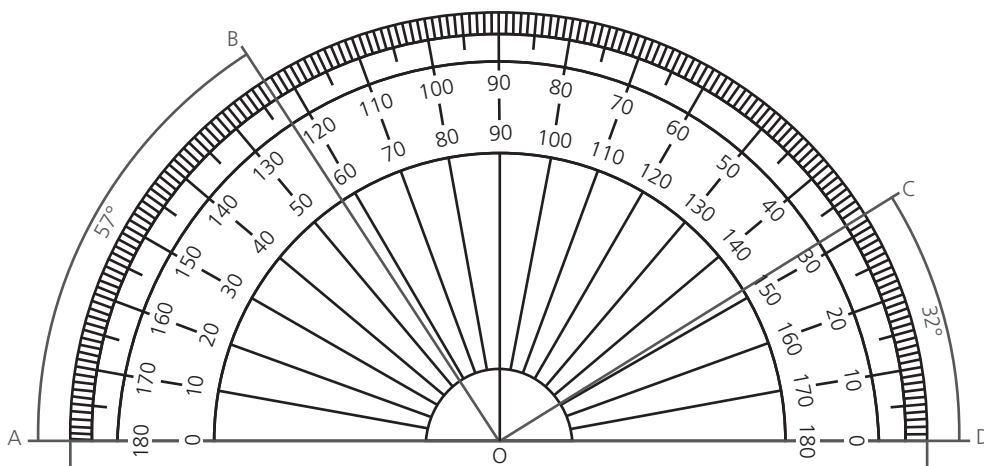

Figure 5 Using a protractor
When the angle between two intersecting lines OA and OB is required, set the horizontal (0–180 $^\circ$ ) line of the protractor on one of the lines (OA) and the zero dot of the protractor on the intersection point of the lines (O). The angle AOB =  $57^\circ$  can then be read off the inner scale of the protractor as shown in Figure 5. Similarly, the angle between lines OD and OC, angle DOC =  $32^\circ$ , can be read from the outer scale.